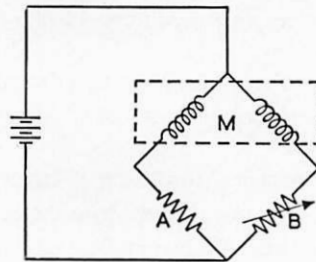
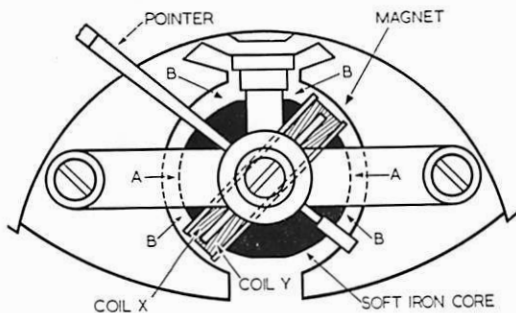

Fig. 4.
Fig. 5. Ratiometer Thermometer—Disposition of Coils and Presentation.
8. Ratiometer Type. The basic circuit of the ratiometer thermometer is shown in Fig. 4, where A and B are resistances, the latter being temperature sensitive and mounted in the thermometer bulb, and M is a moving coil unit consisting of two coils wound on one former. These coils are wound one diagonally over the other, as can be seen in Fig. 5, and are so connected that the torques produced by them are in opposition. Inside the coil unit is a stationary soft iron core which is made slightly elliptical so that the magnetic field in which the coil unit moves is stronger at points A than at points B . Now, the coil unit will be in equilibrium when the opposing torques are equal; consequently, the coil in the weaker part of the field must have the stronger
current flowing through it. Thus, in Fig. 5 the current in coil X passes through the fixed resistance and is constant, whereas that in coil Y passes through the bulb resistance and, in the low temperature condition shown, is the greater. As the temperature rises so also does the value of the bulb resistance and the current in Y therefore decreases, causing the coil unit to rotate clockwise until equilibrium is established. At the half-scale point the current in Y will have fallen to the same value as that in X, and at higher temperatures will be the lesser. Because the current strength in the two coils will remain in the same proportion at a given temperature, irrespective of the applied voltage, readings are unaffected by normal supply fluctuations. With the oil and radiator temperature variants the "current off" position of the needle is low off-scale, whereas with the air temperature version it is high off-scale. Dials are similar to those used with the Wheatstone Bridge circuit, except that there is no null point mark.